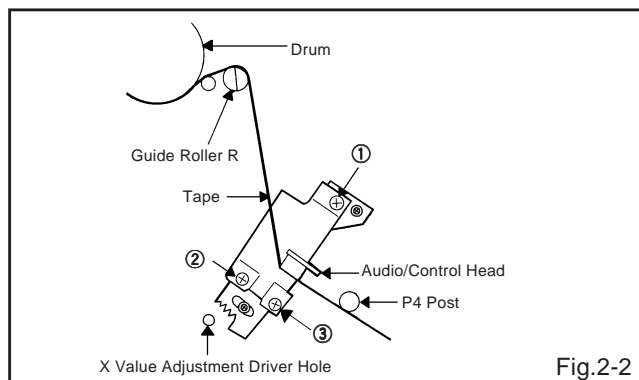

Fig.2-2
2. Confirm that there is no crease on the tape between the P4 post and guide roller (R) and the tape is running smoothly. (It is absolutely impossible to get satisfactory sound if the tape is distorted between the A/C head and P4 post.)
3. If the tape still does not run smoothly, turn the screw ① and adjust the tilt of the A/C head. (Refer to Fig. 2-2)
2. Turn the screw ② slowly to change the azimuth of the A/C head. Adjust the height so that the audio output becomes maximum. (Refer to Fig. 2-2)
3. Adjust the screw ③, (Refer to Fig. 2-2) until the height of the A/C head reaches the position against the tape as shown in Fig. 2-3.
4. When the control head height is not correct. (When you must turn the screw more than 45 degrees), Turn all of the screws ①, ② and ③ to the same degrees. Then confirm the angle of the audio/control head and adjust again.